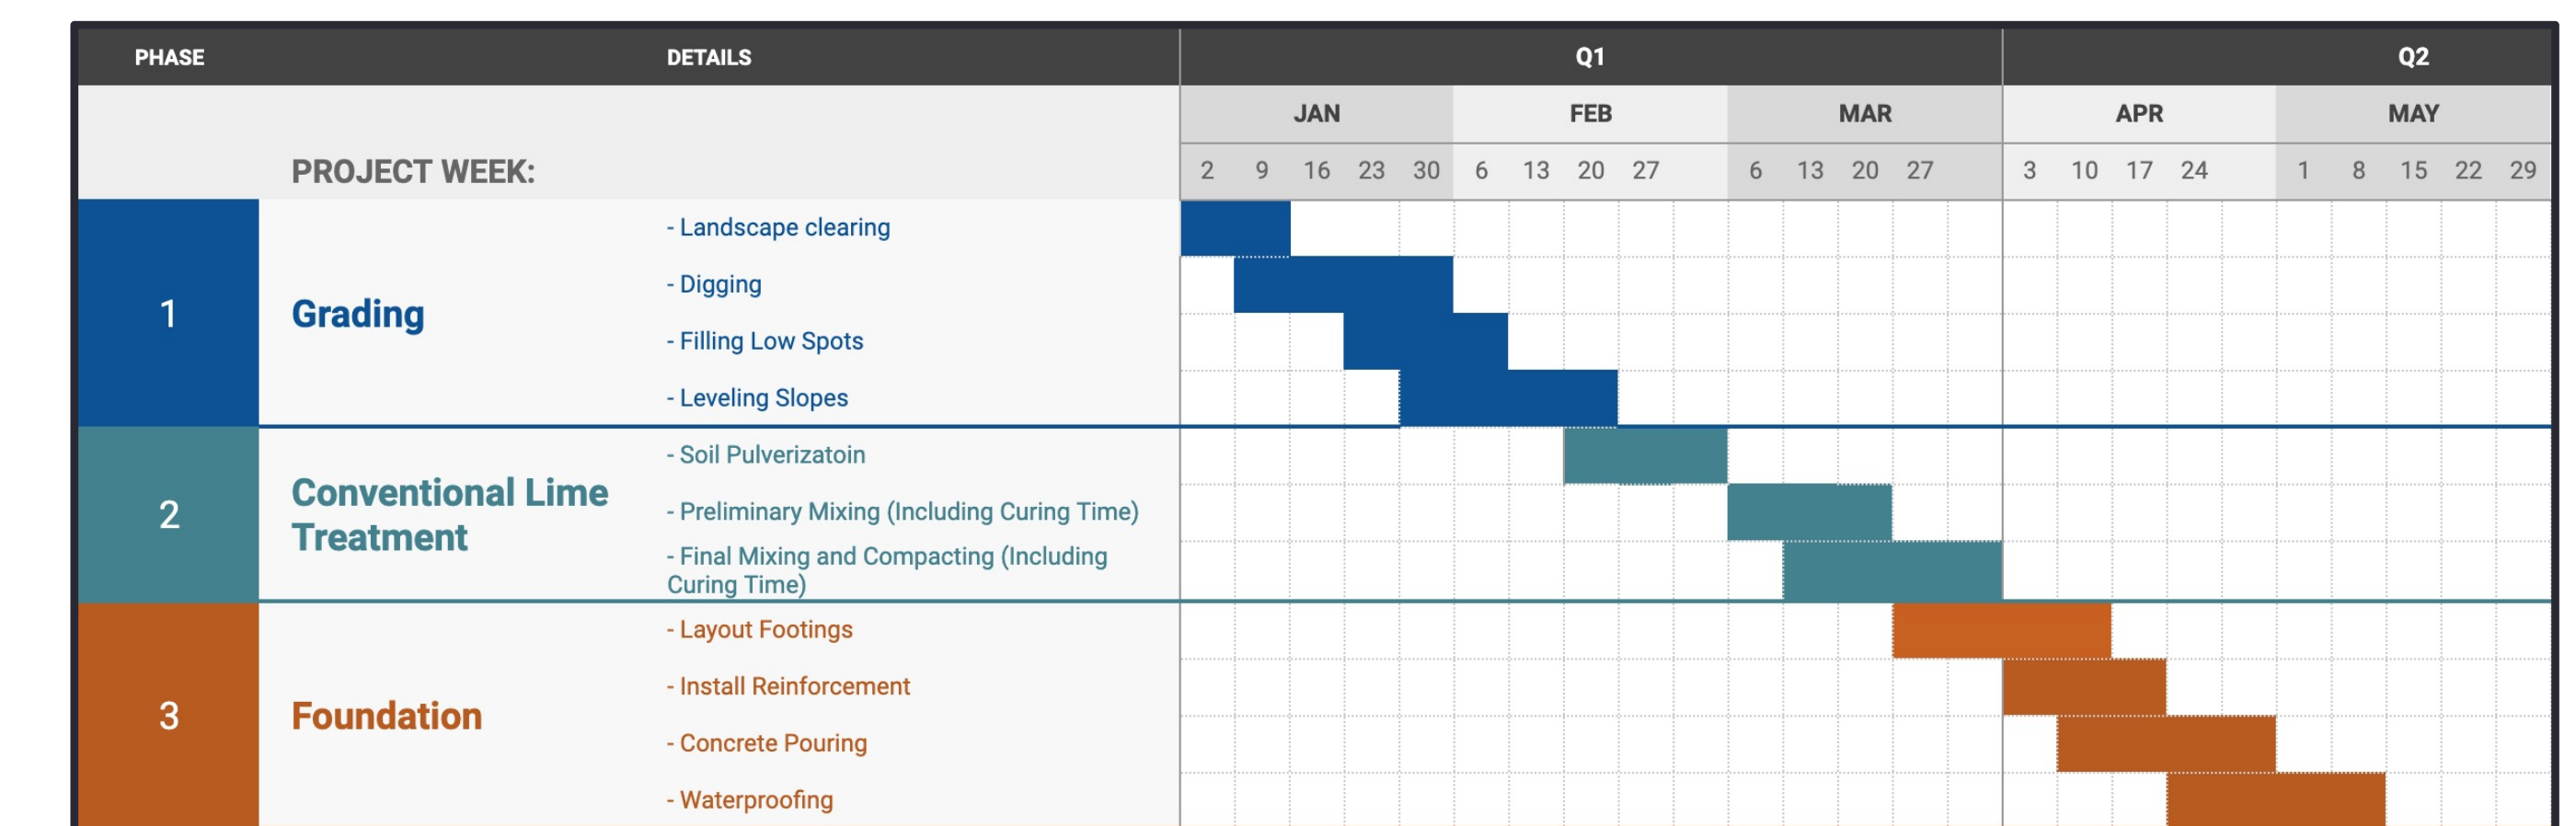

Figure 3: Foundation Construction Timeframe
- A proposed timeline of our construction schedule of the geotechnical foundation is shown in Figure 3